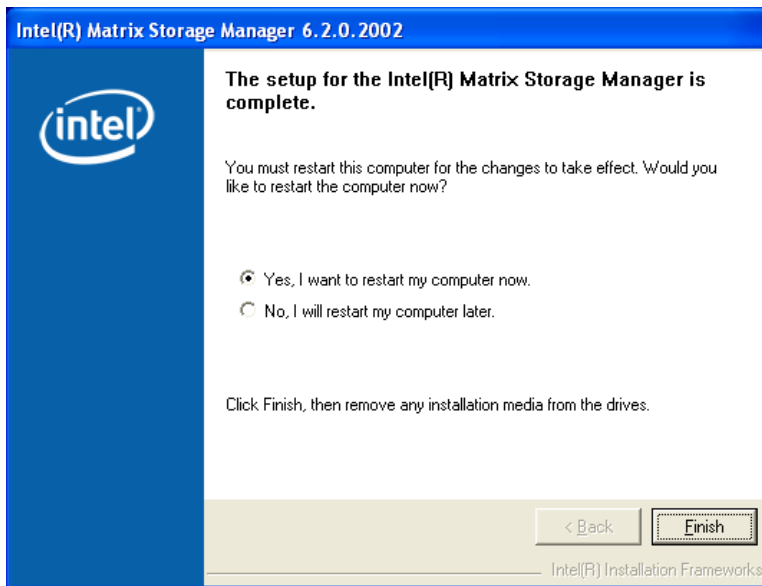

Figure 7-44: Matrix Storage Manager Setup Complete
Step 12: After the driver installation process is complete, a confirmation screen appears (Figure 7-44).